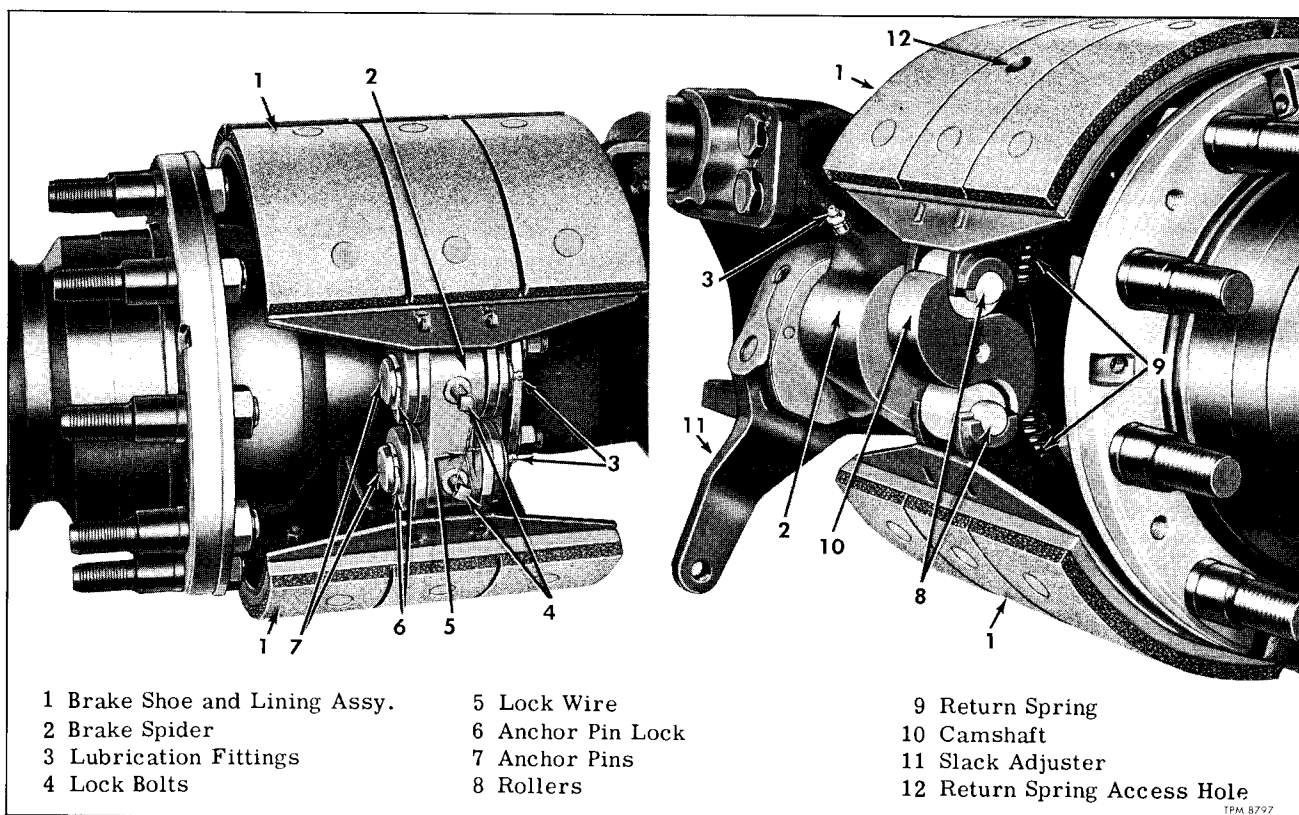

Figure 33—Rear Brake Shoes Installed (Typical)
Brakes at each rear wheel have two shoes (fig. 33). Two-piece block type lining is bolted to each shoe. The hole through lining and shoe table at cam end is used for removing and installing springs. Shoes pivot at one end on anchor pins and ride at other end on rollers (fig. 33). Roller ends of shoes are extended during brake application by constant
The anchor pin acts as a rigid pivot point for fixed end of shoe. Lock bolt in spider extends through hole in bushing and seats in pin groove. The two lock bolts are wired together (fig. 33).
2. Position each brake shoe heel at spider. Install anchor pins and pin lock bolts; then tighten bolts firmly. Thread lock wire through bolt heads and twist ends of wire together (fig. 33).